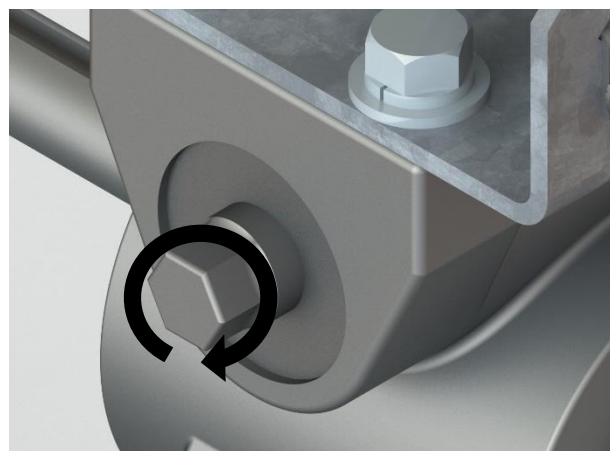

Figure 12
- 3) Use ½" (13 mm) hexagonal socket wrench to raise or lower the COVANA cover by turning the operator's input shaft. (Figure 12)